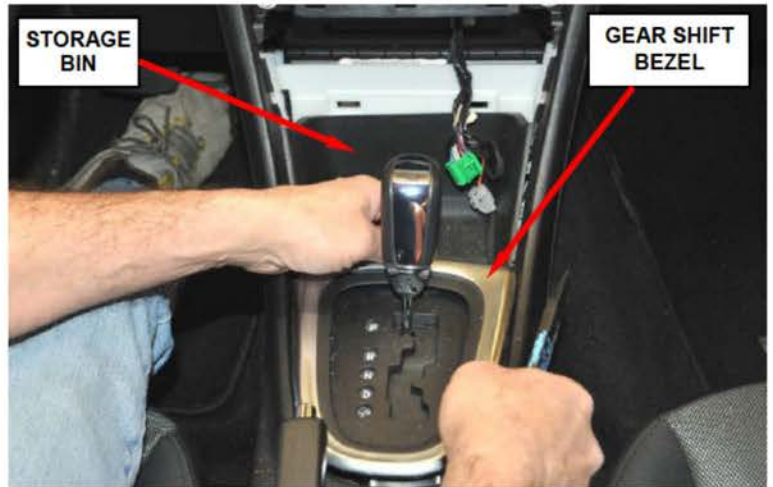

Figure 2 – Gear Shift Bezel and Storage Bin
3. Remove and save the gear shift bezel (Figure 2).
4. Remove and save the front storage bin (Figure 2).
17. Install the front storage bin (Figure 2).
18. Install the gear shift bezel (Figure 2).